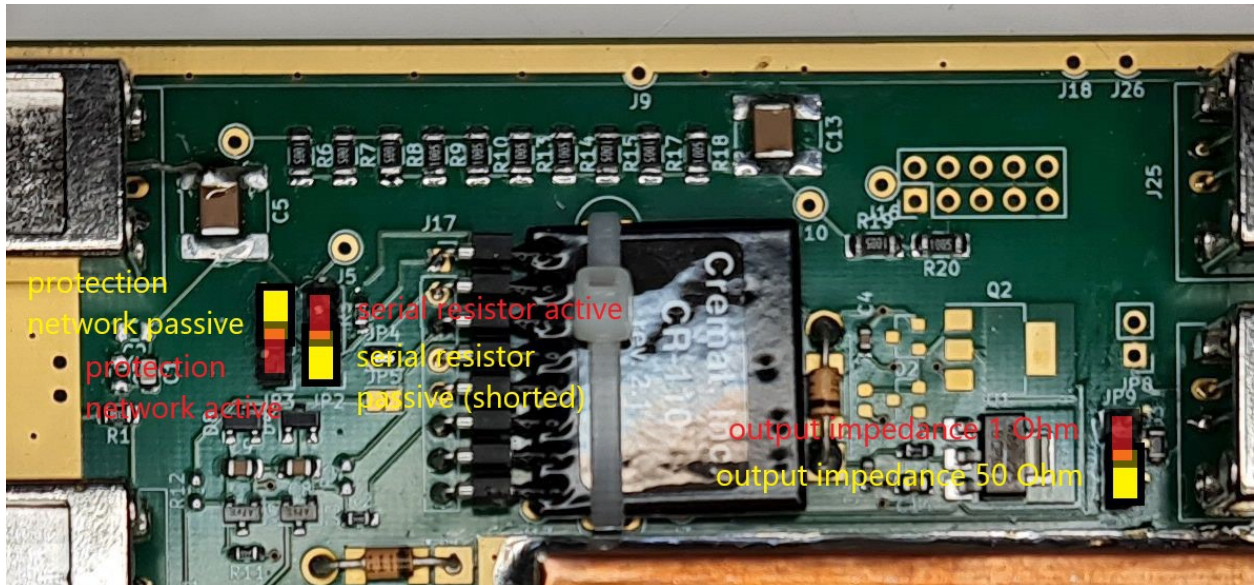

Fig. 7.1: CSPA1X board with jumpers
CSPA1x is designed among others to realize better usability and trouble-free power supply. The detector input is protected by implemented diodes network circuit. It minimally increases the internal capacitance and thus also the values of internal noise. You can disable this function as needed (Fig. 7.1 Jumper J2: to pos. 2-3)
Further protection of measure is built-in input ser. resistor = 100 Ohm. This resistor is deactivated in order to keep the noise at a low level (Fig. 7.1. JP3 pos. 1-2).